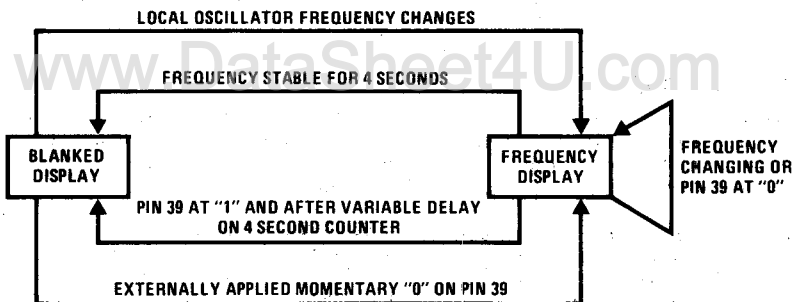

FIGURE 3
39. Display select. This pin exhibits internal low impedance to V_{SS} as long as the display segment drives are active. If it is externally connected to V_{SS}, display segment drives are constantly active. Figure 3 shows the display scheme.